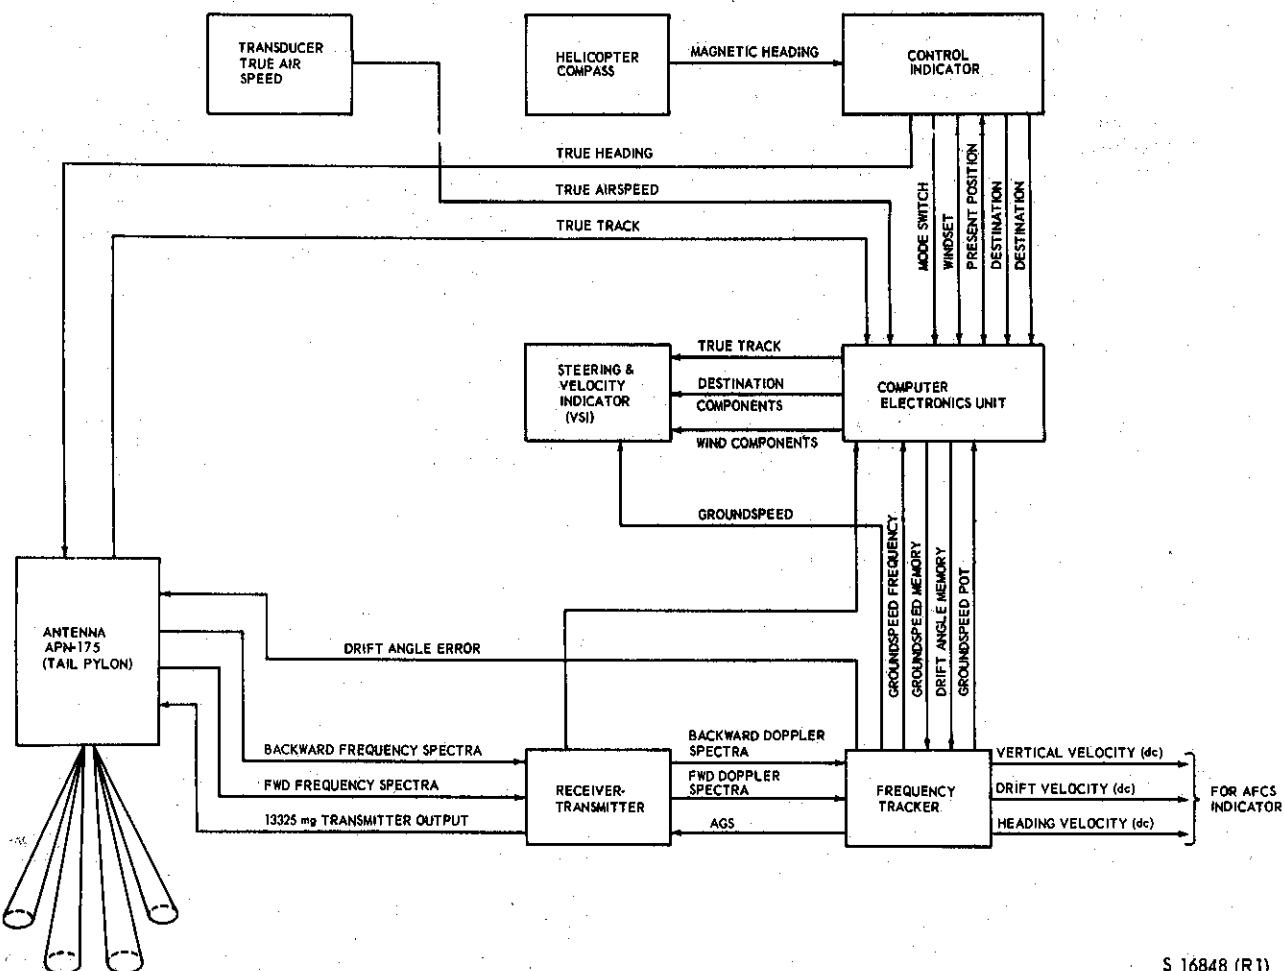

Figure 4-12. Navigation Set, Radar, System Block Diagram
Helicopters CH-3E 16 ▶ and HH-3E 25 ▶ are equipped with a navigation set, radar. The navigation set consists of sensor group and a doppler computer group. The system is augmented by magnetic heading information from the J-4 compass system, a true airspeed transducer, and AFCS vertical gyro inputs to stabilize the antenna of the sensor group in pitch and roll (figure 4-12). The AFCS indicators are also utilized to reflect along track, across track, and vertical velocity displays in the hover mode of operation, below 25 knots ground speed. Along track information is displayed by the horizontal bar and across track information is displayed by the vertical bar, each circle representing 5 knots groundspeed. Vertical velocity information is displayed by the left-hand pointer, with each division representing 500 feet per minute. HH-3E helicopters 32 ▶ or those helicopters modified by T.O. 1H-3-611 are equipped with a radar altimeter set AN/APN-171(V) that eliminates the present altimeter function of the AN/APN-175(V)-2 and the altitude indicators.